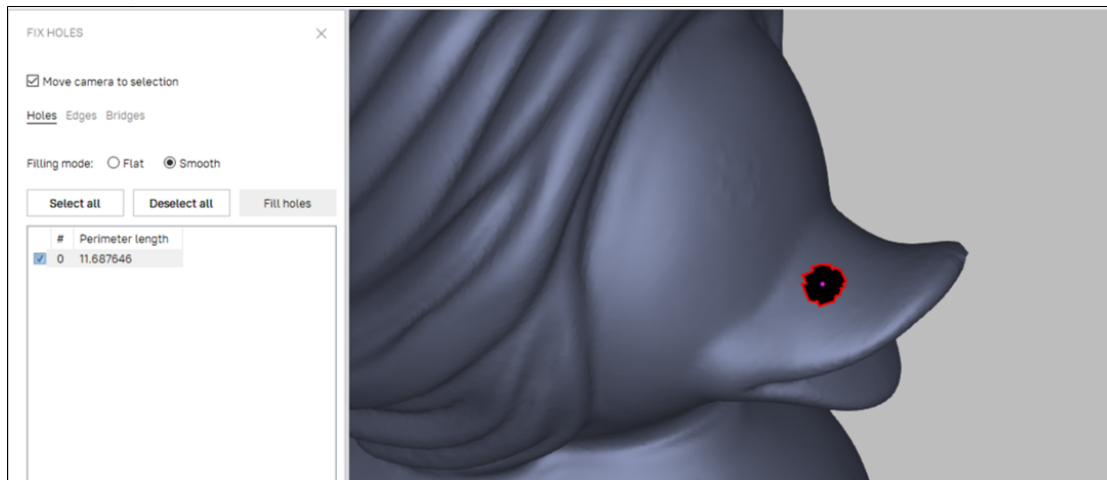

Figure 157: One hole on a curved surface, marked for correction.
3. Select a hole either in *3D View window* or mark the checkbox next to it in the list. Artec Studio will highlight these holes in red (see Figure 157).